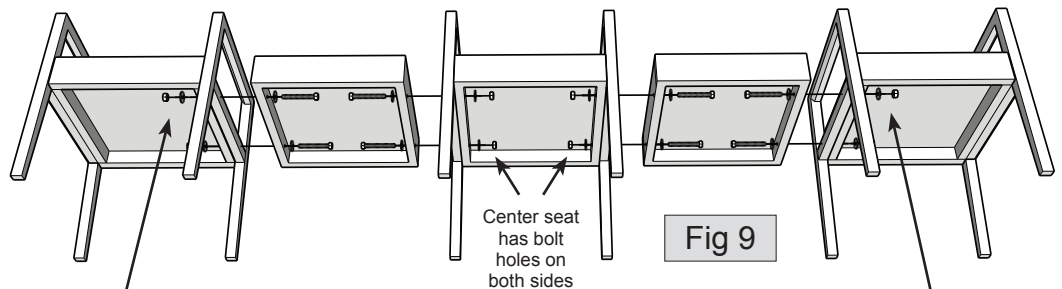

Fig 9
2. Connect center seat cushions (2) to left, right and center seat frames using 5" bolts, washers and nuts, as shown in figure 9.